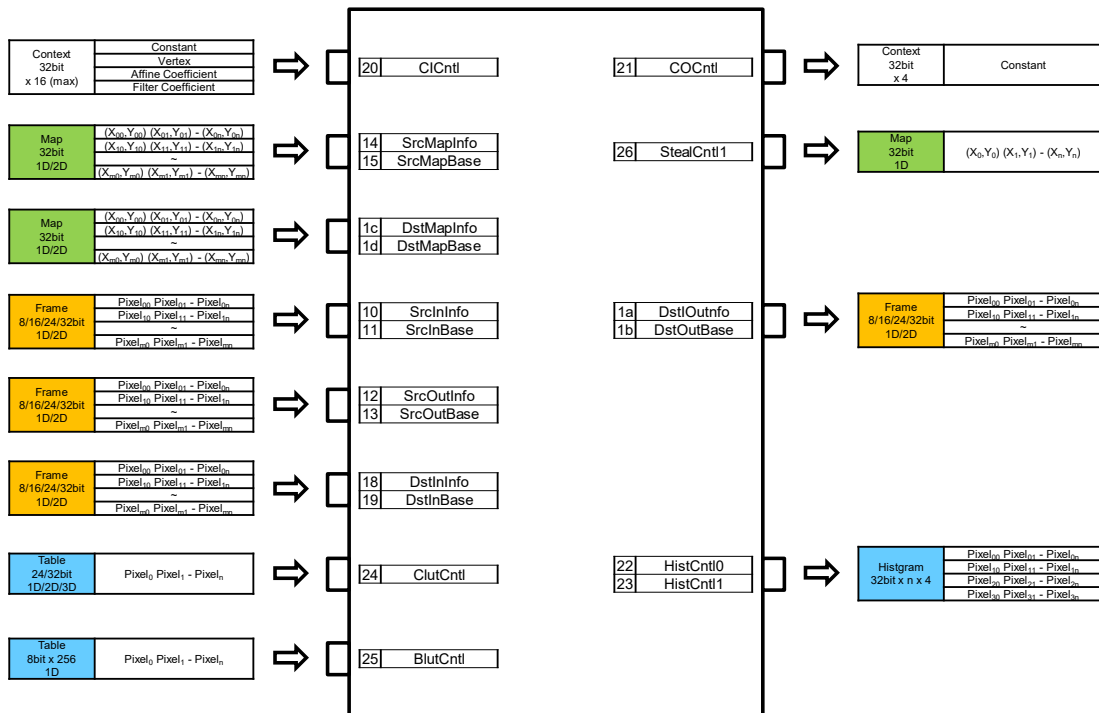

Figure 1 Inputs and Outputs
- *frComp* follows the pipeline structure shown in **Figure 1**, processing in the order: **Initiator**, **Polygon Generator**, **Remapper**, **Affine Transform**, **Pixel Cache**, **Filter**, **Envelope**, **3D Clut**, **Extractor**, and **Blender**. This processing order cannot be changed.
- As shown in **Figure 1**, processing is categorized into three domains: